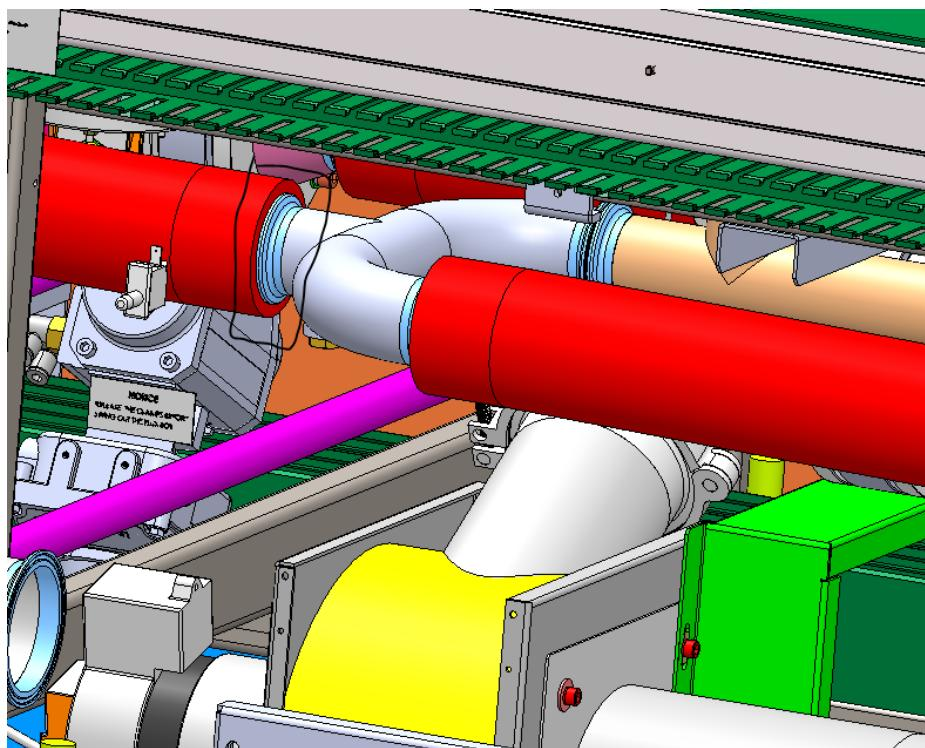

Fig 8
7. Loosen below exhaust tube connector , Retain clamp. Set aside for reinstallation (see Fig 8)